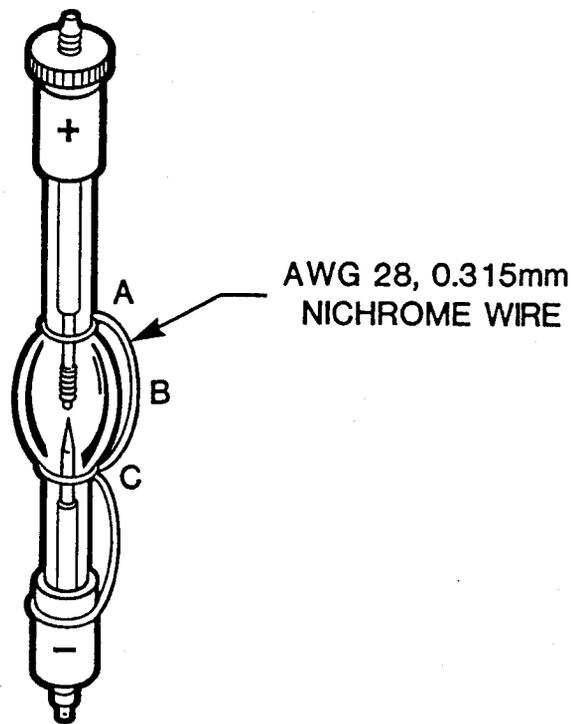

Fig. 14 Starter wire installation on Xe lamp.
Wearing cots or gloves loop the wire around the top of the lamp envelope, (A) in Fig. 14, twisting the end securely.